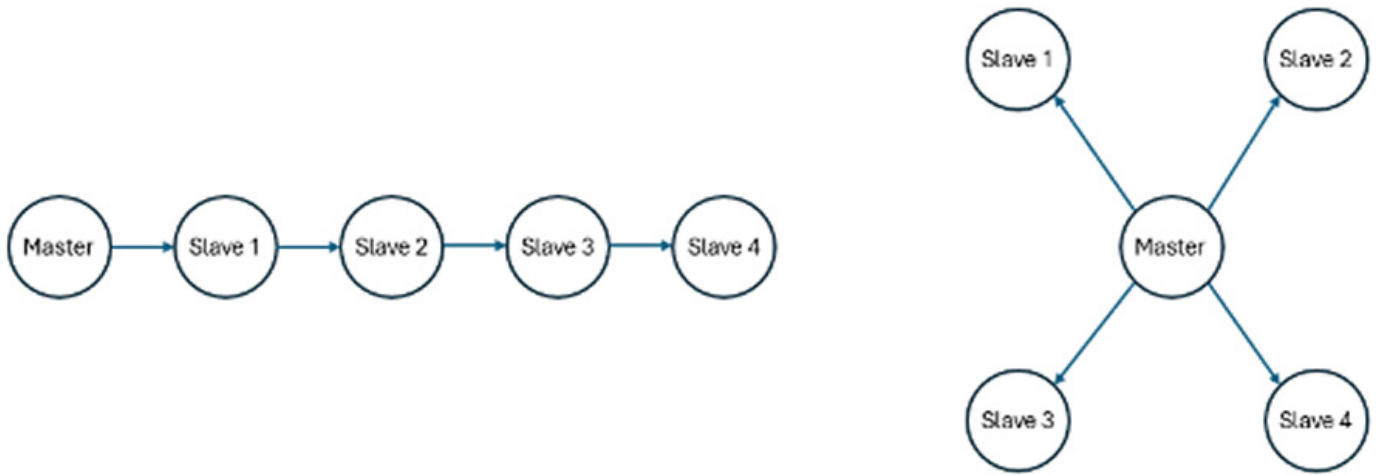

Figure 2. Daisy-chain (left) and star (right) topologies.
- Using the "star" topology in an I2C application (and slower SPI speeds) is a myth and shouldn't have any major impact on signal integrity, as shown in the calculations above. If the bus isn't operating above the 50MHz range, then bus reflections likely won't occur. At some point, it *does* matter, and you'll want to avoid a "star" topology when laying out a communication interface. It's better to "snake" a bus around a PCB starting with the master or host at one end and the slave devices connected along the path rather than branching out in many different locations (**Figure 2**).